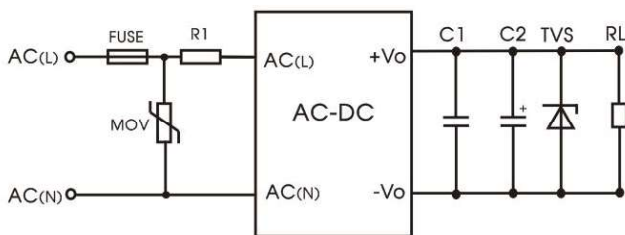

Fig. 6
- Unless otherwise specified, EMC performance indicators are tested according to typical application circuits (Fig. 6).